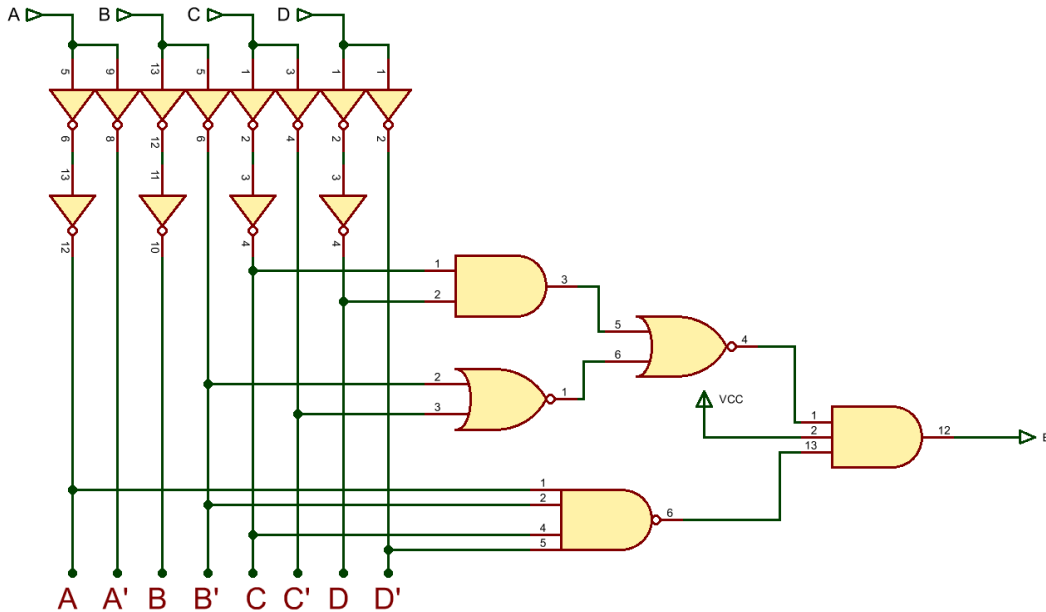

Fig. 2. Combinational circuit $E = f(A, B, C, D)$.
1. Analyse the *Circuit_E* in Fig. 2 using **method I** to obtain its truth table $E = f(A, B, C, D)$. Firstly, explain your plan and the concepts and procedures involved in the deduction.